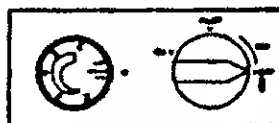

Figure 18 - Control Knob In The OFF Position
3. Push in control knob slightly and turn clockwise to the OFF position. (see Figure 18).
5. Push in and turn control knob counterclockwise to PILOT position. Press in control knob for five (5) seconds.
7. Press in control knob and turn counterclockwise past IGN to PILOT (see Figure 18). This will cause the piezo ignitor to spark and light the pilot gas. Keep control knob depressed for 10 seconds before releasing. If needed, repeat steps 5 through 7 until pilot lights.
8. When pilot is lit, turn the control knob to ON position (see Figure 18).
9. To select desired heating level, turn the temperature setting knob counterclockwise between 1 and 7 (see figure 18).